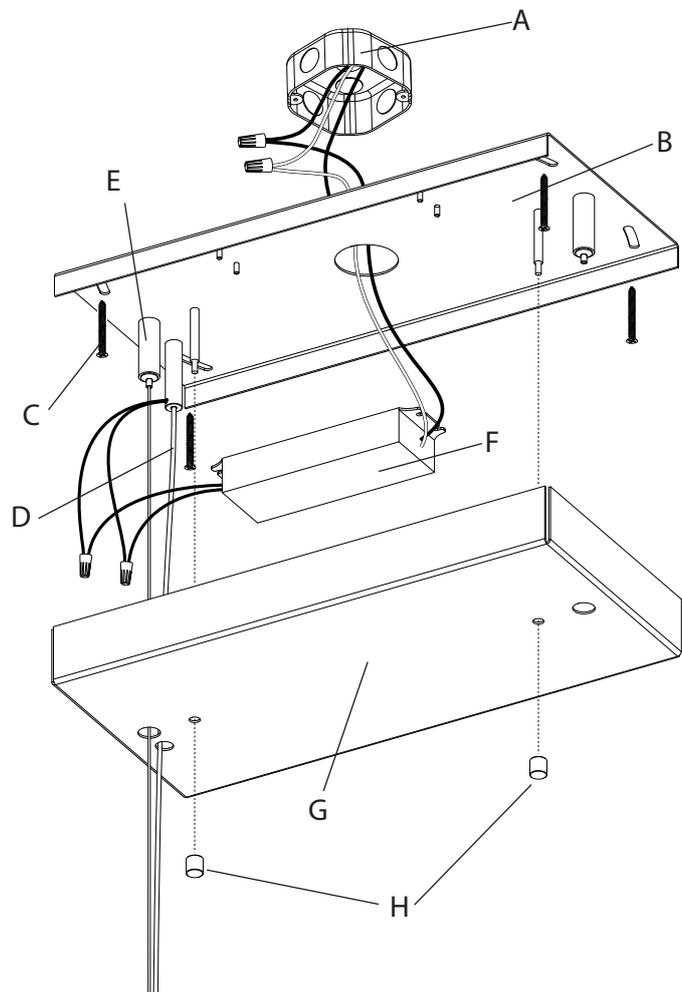
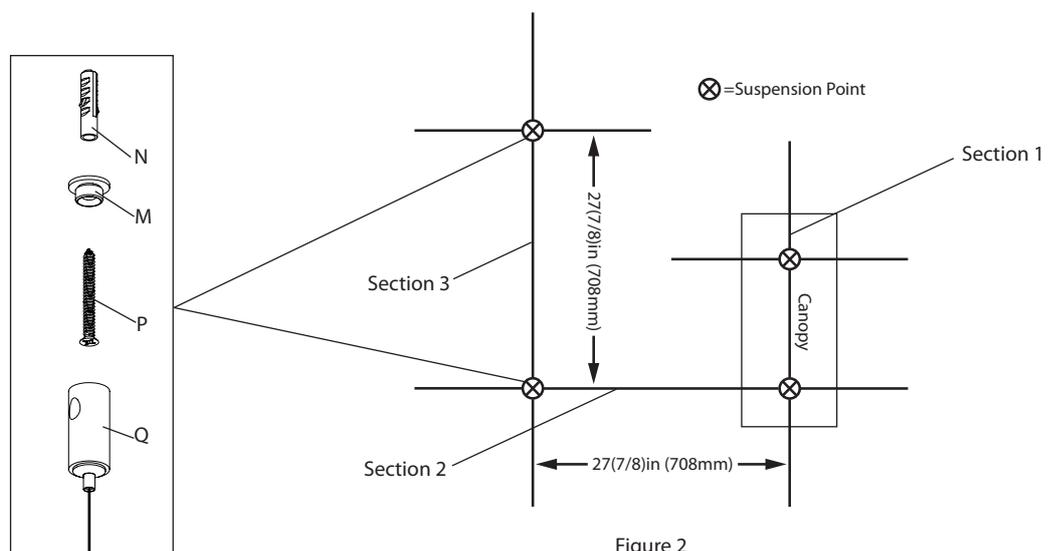

Figure 1
Figure 2
1. Shut off power to the outlet box (A).
2. Install the mounting plate (B) to the ceiling under outlet box (A) with included screws (C).
3. Install aircraft cable and power cord (D) from Section 1 through respective canopy holes into grippers (E) on mounting plate (B). (Figure 1)
- a. Connect the LED driver's (F) live wire to the live outlet box wire.
- b. Connect the LED driver's (F) neutral wire to the neutral outlet box wire.
- c. Connect the canopy's ground wire (green or uncoated) to the ground outlet box wire. If no ground is present in outlet box, connect canopy's ground wire to the mounting plate (B) using the green screw (included).
5. Install canopy (G) to the mounting plate (B) using canopy nuts (H).
6. Using Figure 2 as a reference for the position of the cable grippers, install the mounting brackets (M) to the ceiling with anchors (N) and screws (P), then screw the cable gripper posts (Q) in.
1. Make a 1" slice along the length of the cord's outer jacket (Fig. 1).
2. Carefully strip the outer jacket of the cord and keep the outer braided conductors intact (Fig. 1).
3. Slide the outer braided conductor back to create a bulge and reveal the inner stranded conductor (Fig. 2).